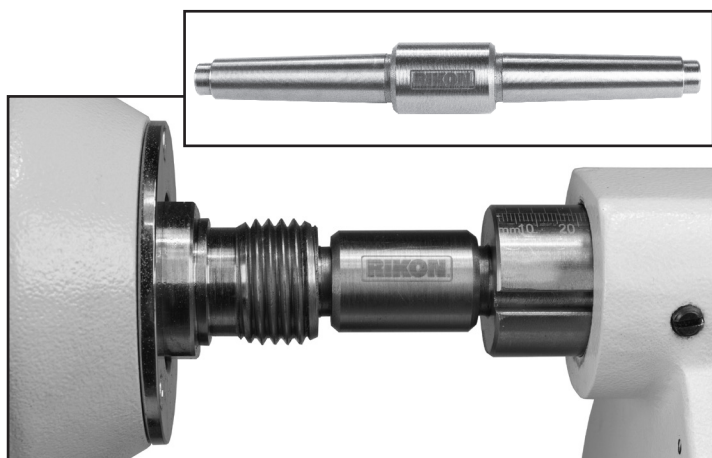

FIG. 38
3. If the centers do not align, use the provided MT2-MT2 Alignment Gauge (FIG. 38) to align the headstock to the tailstock;